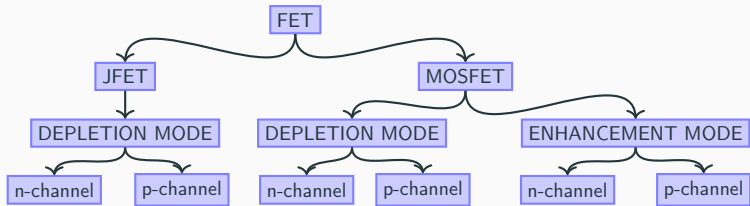

Figure 1: Classification of FET
3. It is a three-terminal, voltage controlled, device and is categorized as shown in Fig. 1.